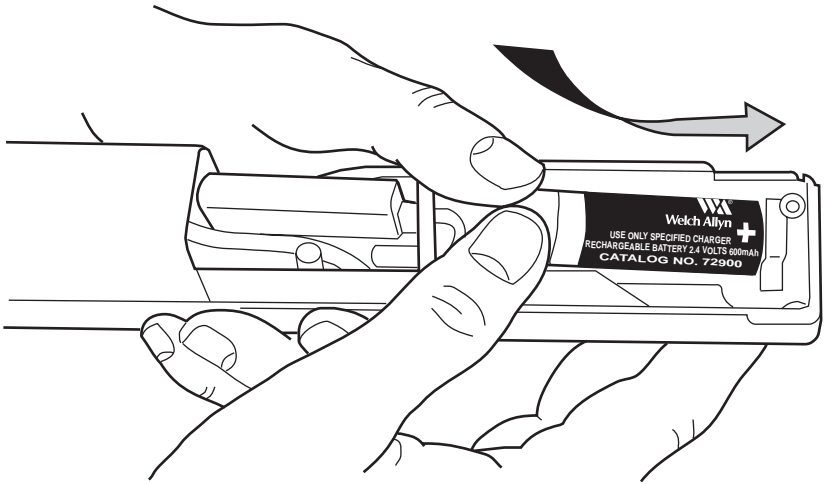

**Figure 37**
4. Push down on the positive (+) end of the battery. Battery will eject. See **Figure 37**.